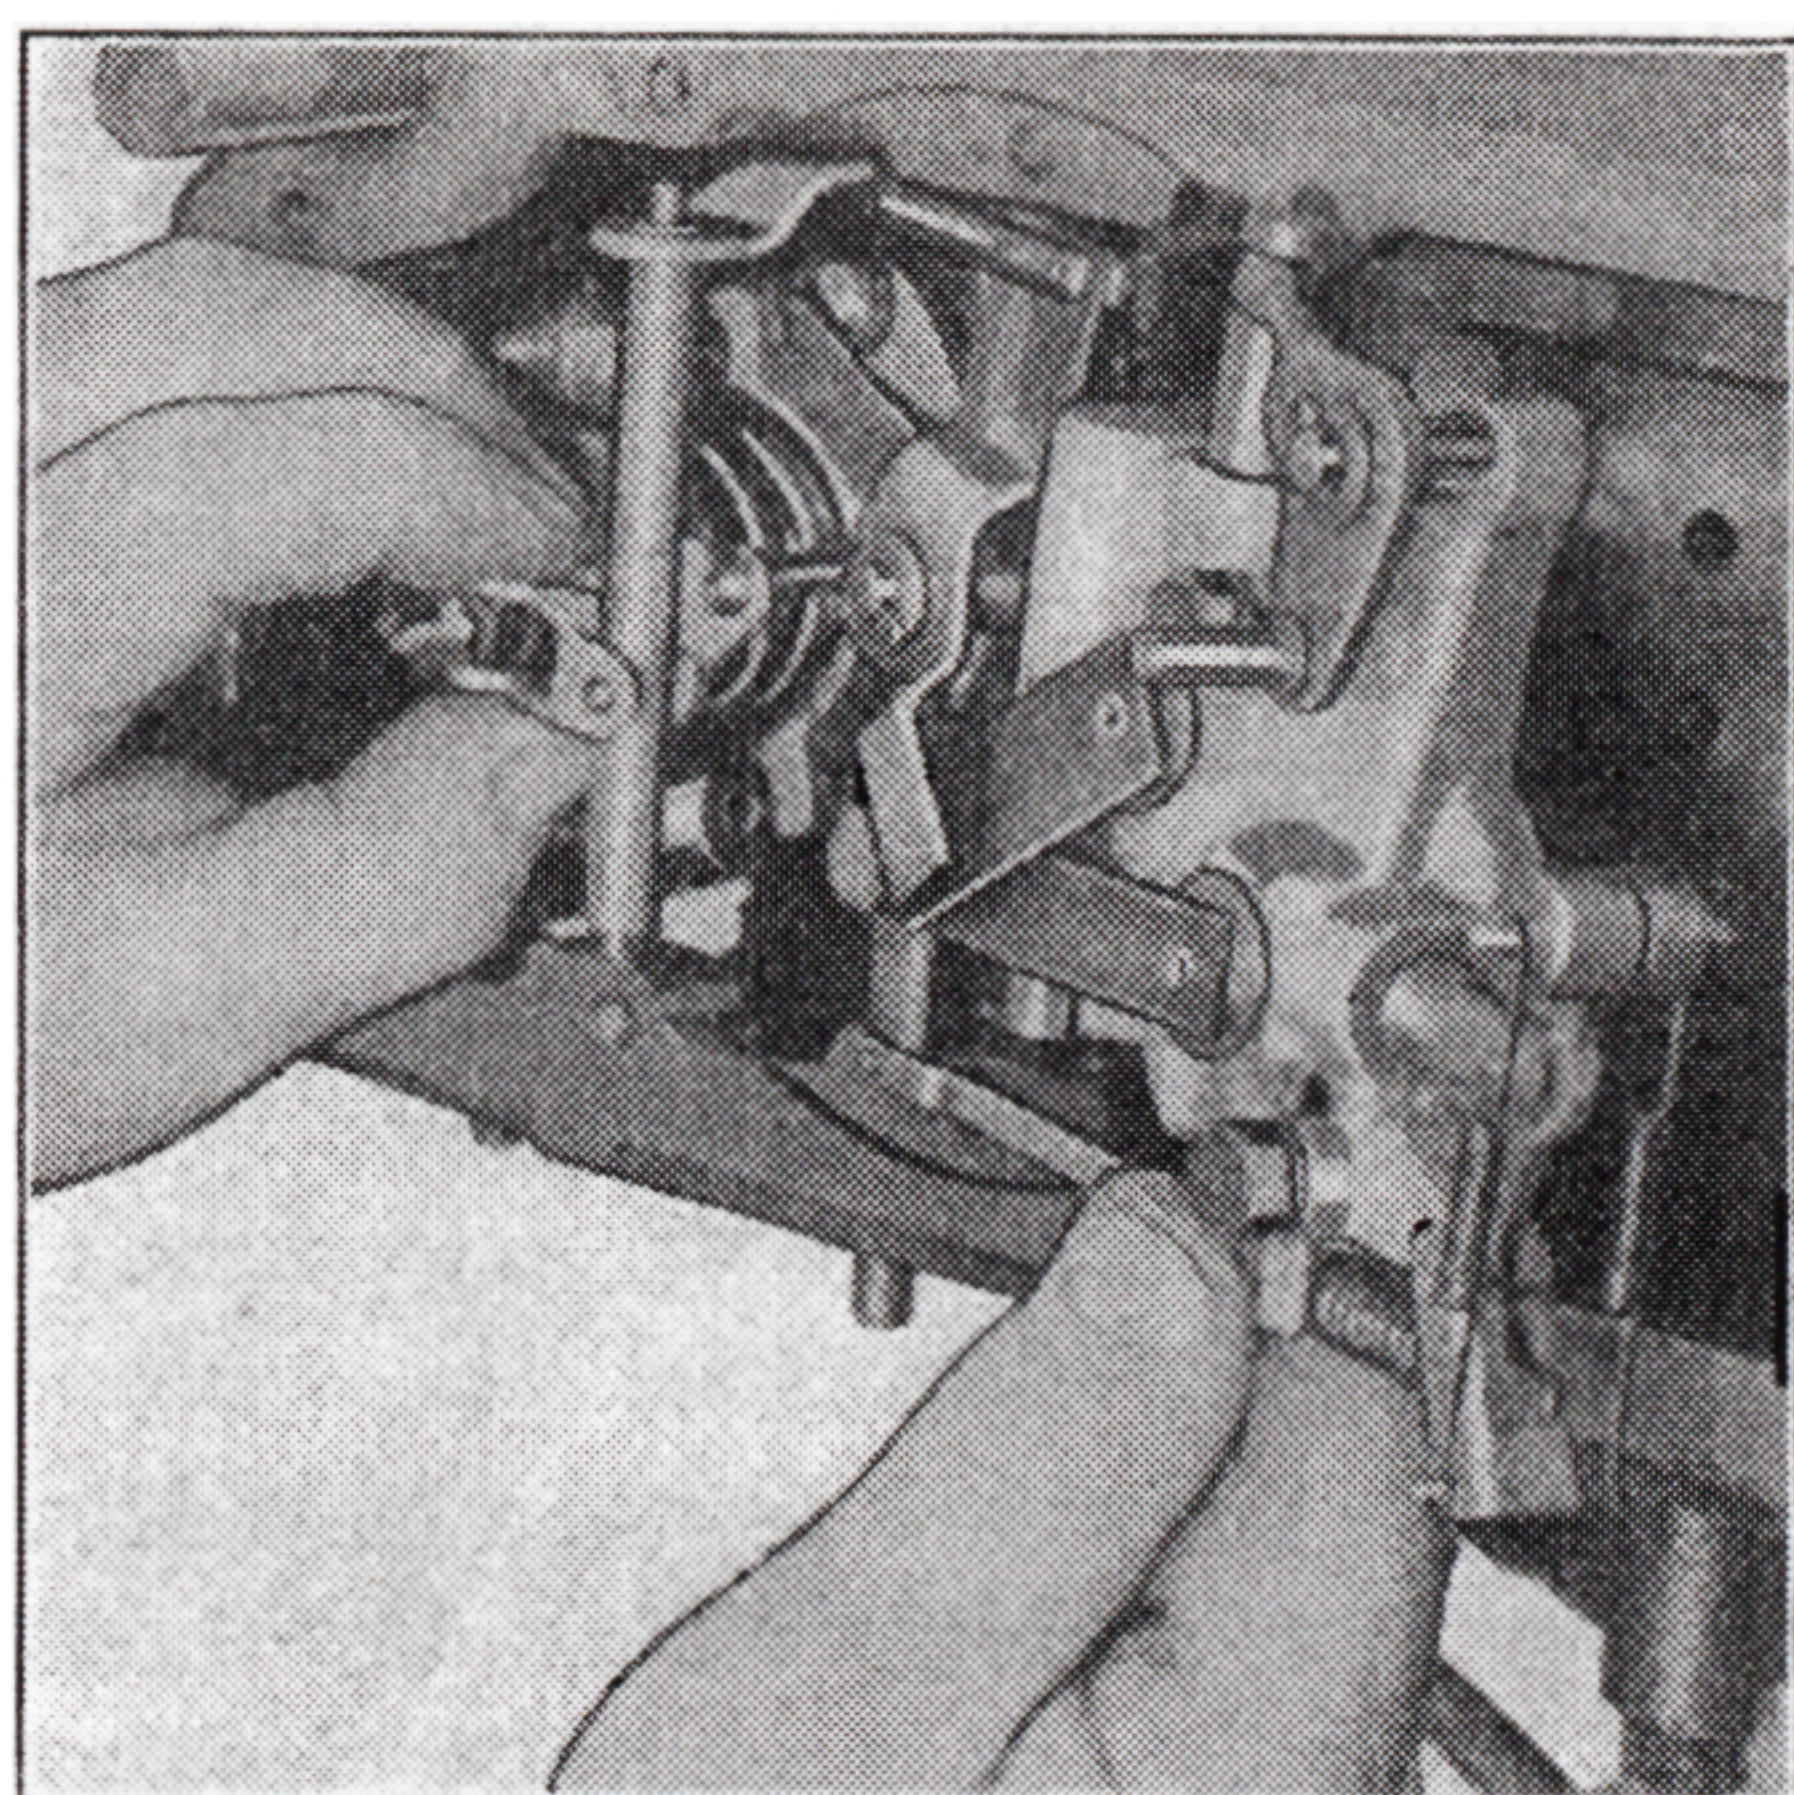

Fig. 30. Removing Valve Body
6. Remove the three cap screws holding valve body to case and then remove valve body and attached linkage. See Fig. 30. After removing body, leave cap screw positioned in valve body to retain dampening valves.